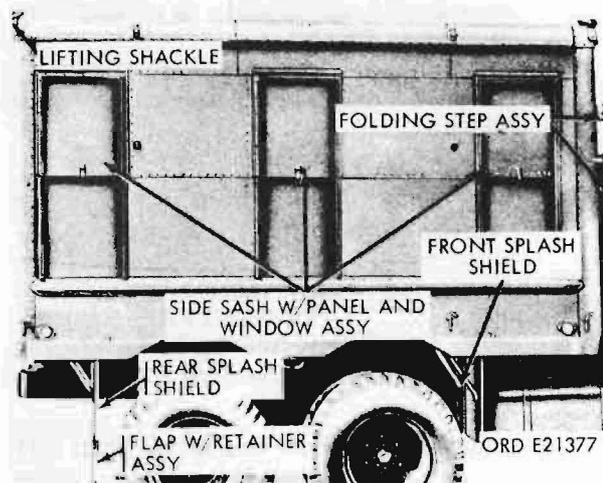
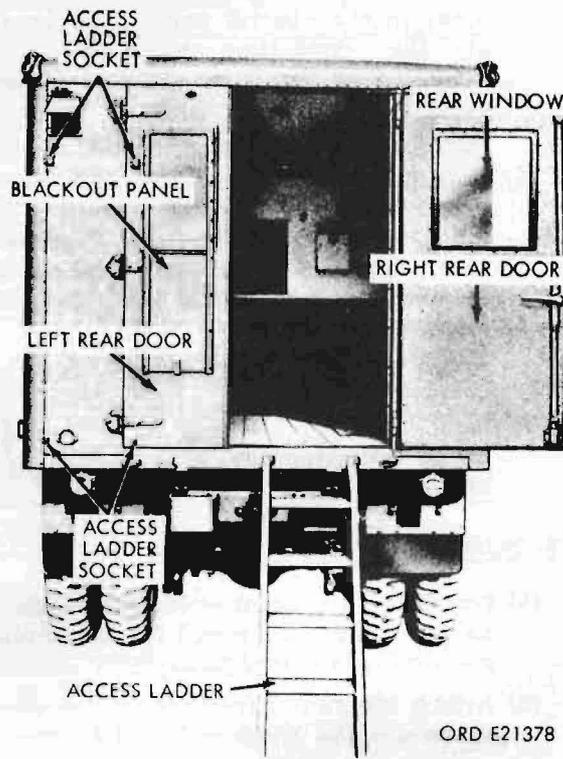
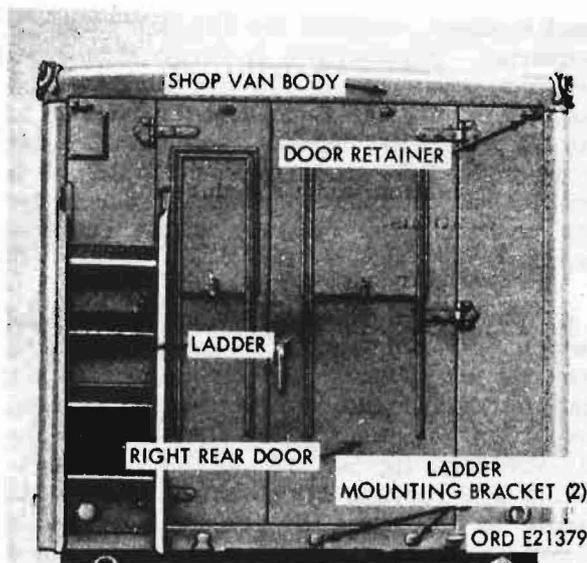

Figure 129. Shop van body assembly - right side view
Figure 130. Shop van body - right rear door open
Figure 131. Access ladder -
a. **Body.** The fabricated steel body (fig. 129), is of insulated steel panel construction. On
newer production models, access to the roof of the body is provided by four folding step assemblies (fig. 129). A stepladder is provided for entering and leaving the body (fig. 130), and is stowed in four sockets (fig. 130) when not in use (fig. 131). A communication door
assembly is located in the upper left corner of the front wall of the van. Eight-foot long wiremold bases, with five receptacles in each, are installed over the windows on each side of the body for plugging in electrical equipment such as power tools. Rear door blackout switches, mounted above the rear doors on the inside of the body, automatically turn off all dome lights except the 115-volt blackout dome light when the right rear door is opened. Lifting shackles (fig. 129), capable of supporting a fully loaded body, are installed on the roof, one on each corner. The body is equipped with an exhaust blower with duct and damper for body ventilation. Five 115-volt, and two 24-volt interior dome lights are provided, as well as one 115-volt blackout dome light with a blue lens.
b. Window Assemblies. Three pushout-type sash assemblies (fig. 129) are provided on each side of the body. Each side sash assembly contains an insect screen, a double-pane window with weatherseal, and a blackout panel. One fixed-type sash assembly, complete with blackout panel, is provided in the front of the body.
c. Rear Door Assemblies. Two rear doors (fig. 130) are provided for entrance and exit. Each door assembly is attached to the body with three hinge assemblies, and is held open